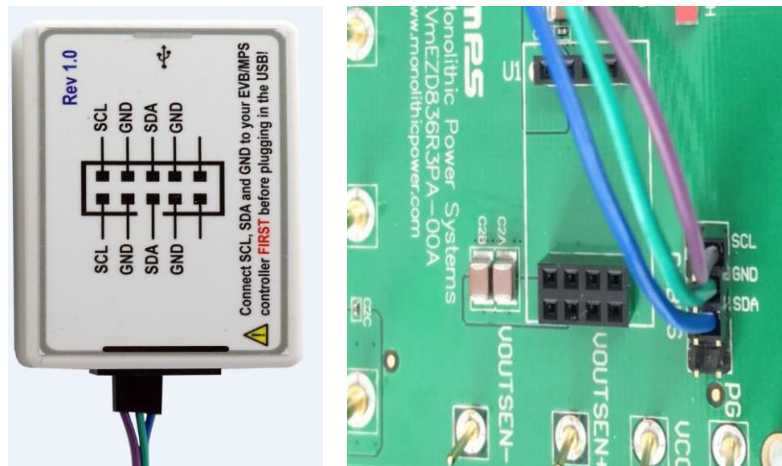

Figure 5: EVB to MPS I2C Communication Interface Device Wire Connection
2. Connect SCL, SDA, and GND (see Figure 5). If needed, refer to the datasheet for further clarification.